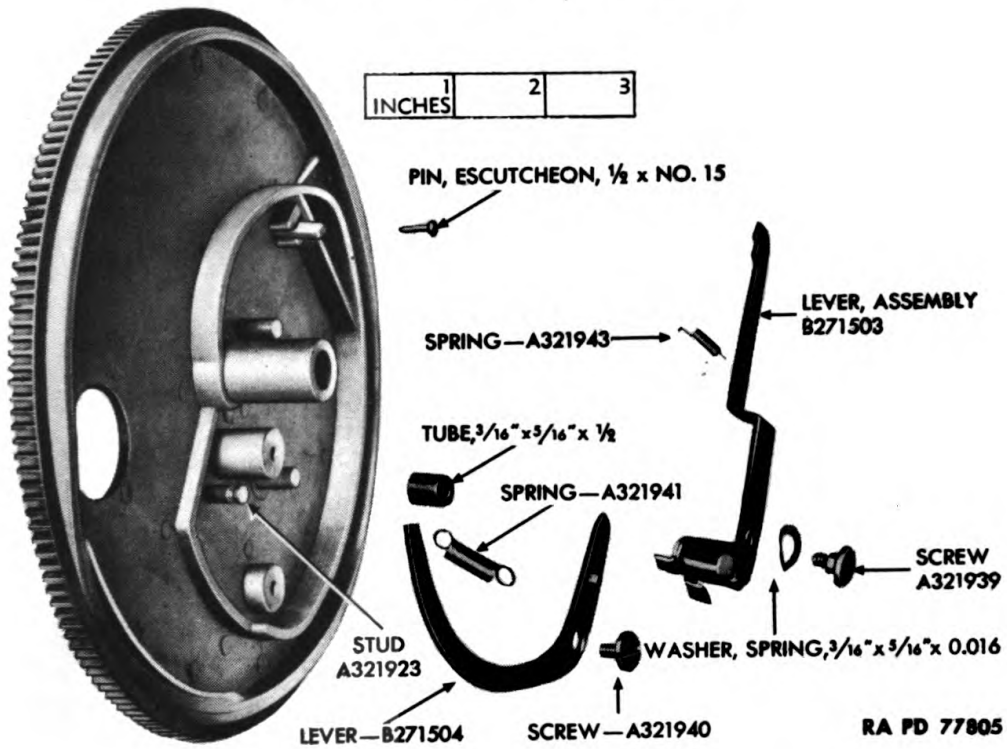

Figure 63 — Removal of Principal Parts From Upper Side of Drive Gear
(10) The principal parts of the drive gear assembly are shown disassembled in figures 63 and 64. Pull the ends of the two springs (fig. 63) from their studs or to their connecting points on the lever B271504 or the lever assembly B271503. Remove the screws fasten-